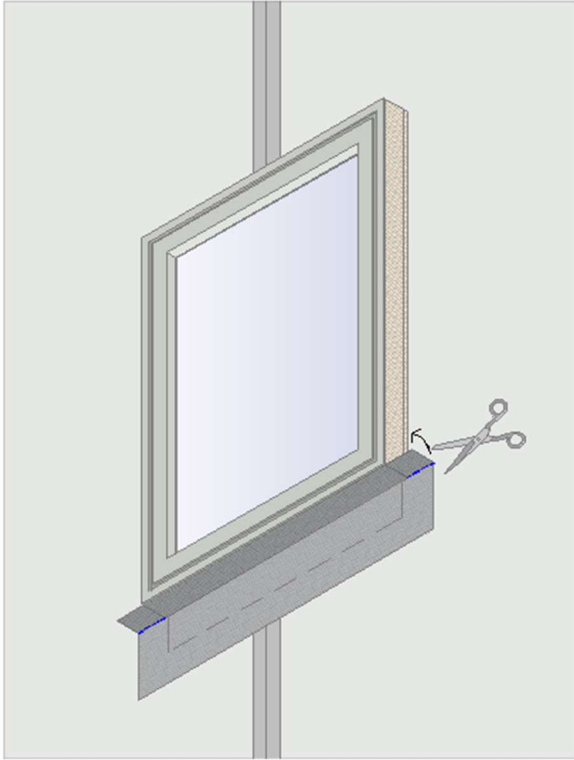
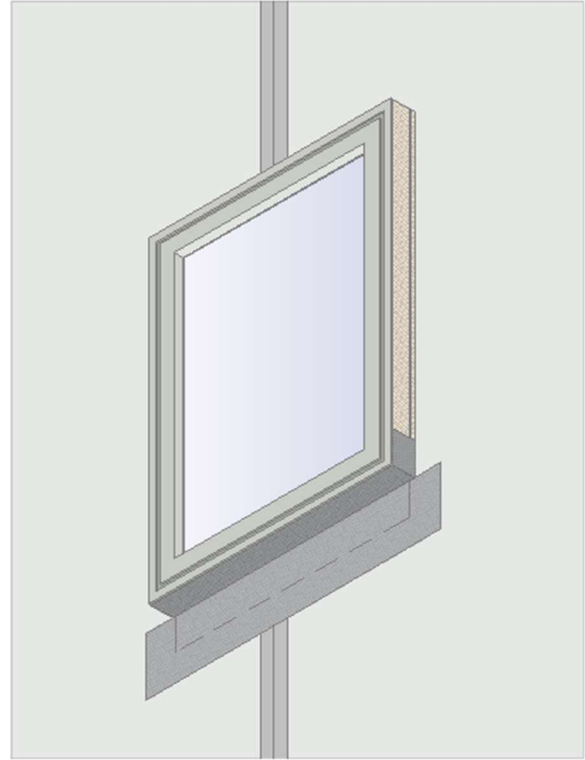

Figure 5
Figure 6
- Using illbruck cutting shears cut a neat straight line (shown in Figure 5 in blue) from the membrane ends towards the window frame to form a flap. Fold the flap upwards and bond to the window frame jamb (Figure 6).